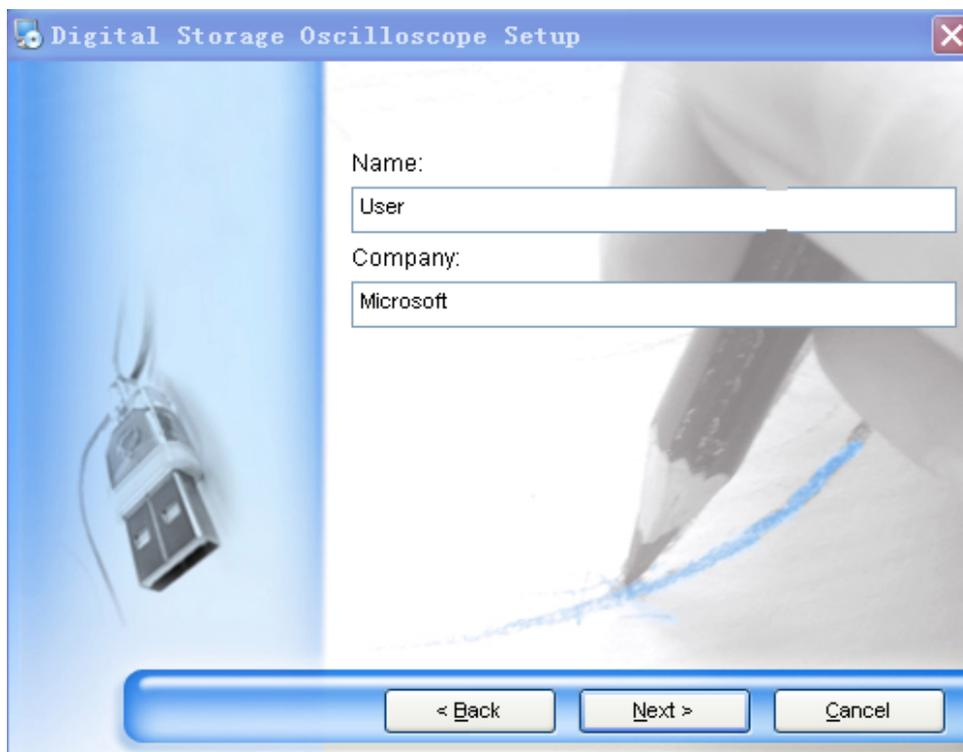

Fig 1-3
Step three : Read the prompt in Fig 1-2 then click the [NEXT (N)] button to enter the next step, as shown in Fig 1-3.
Step four : In Fig 1-3, enter your user name and company name, then click the [NEXT (N)] button to enter the next step, as shown in Fig 1-4.